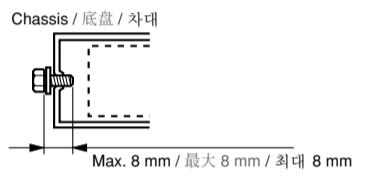

Figure 3 / 图 3 / 그림 3
- Use the enclosed screws for installation. Using other screws can cause damage. (Figure 3)